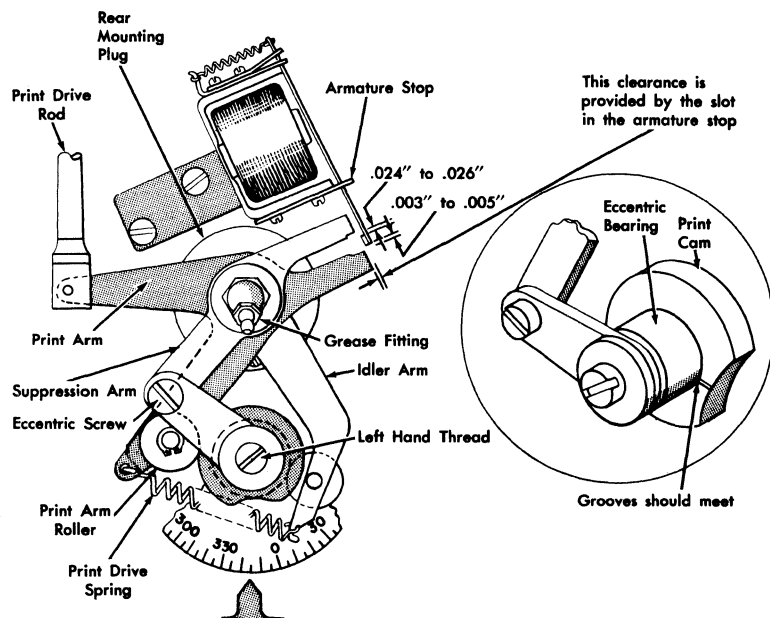

Figure 36. Print Drive Unit
2. Unhook print drive spring (Figure 36) and trip punch clutch armature to prevent damage to it. Hold index and remove screw with left-hand threads from end of punch shaft. Unscrew grease fitting from mounting plug.
print drive rod from print arm (Figure 36) by prying out on drive rod at lower end.
Before reinstalling drive unit, push punch extensions in as far as possible (by hand). Extend pin bail drive link. Line up groove in eccentric bearing and mark on print cam (Figure 36). Check printing.